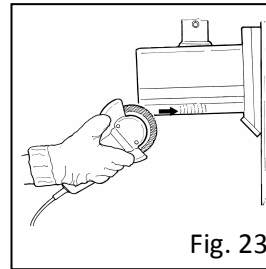
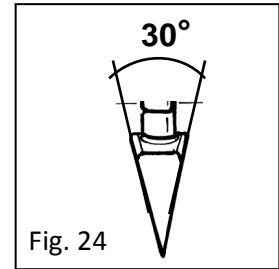

Fig. 23
Fig. 24
**Do NOT modify the edge and the outside spokes of the 30° fixed cutter (see Fig. 24) with any kind of tool (such as a flexible pipe, see Fig. 23).**